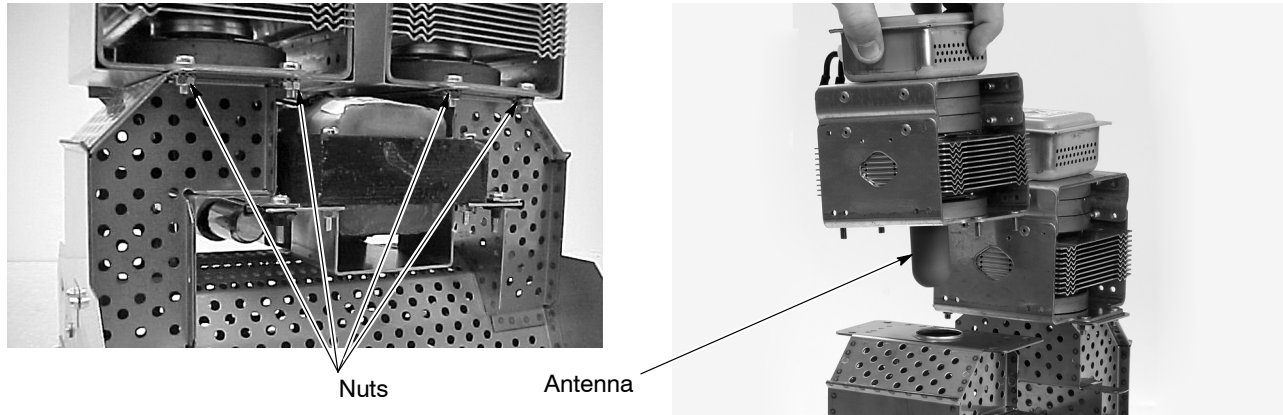

Figure 6-19 Magnetron Removal
- See Figure 6-19. Remove the four nuts that secure each magnetron to the waveguide. Remove the magnetrons. Save the nuts for reuse.
- See Figure 6-19. Inspect the gasket around the antenna of the new magnetron, making sure it is smooth and free of debris.